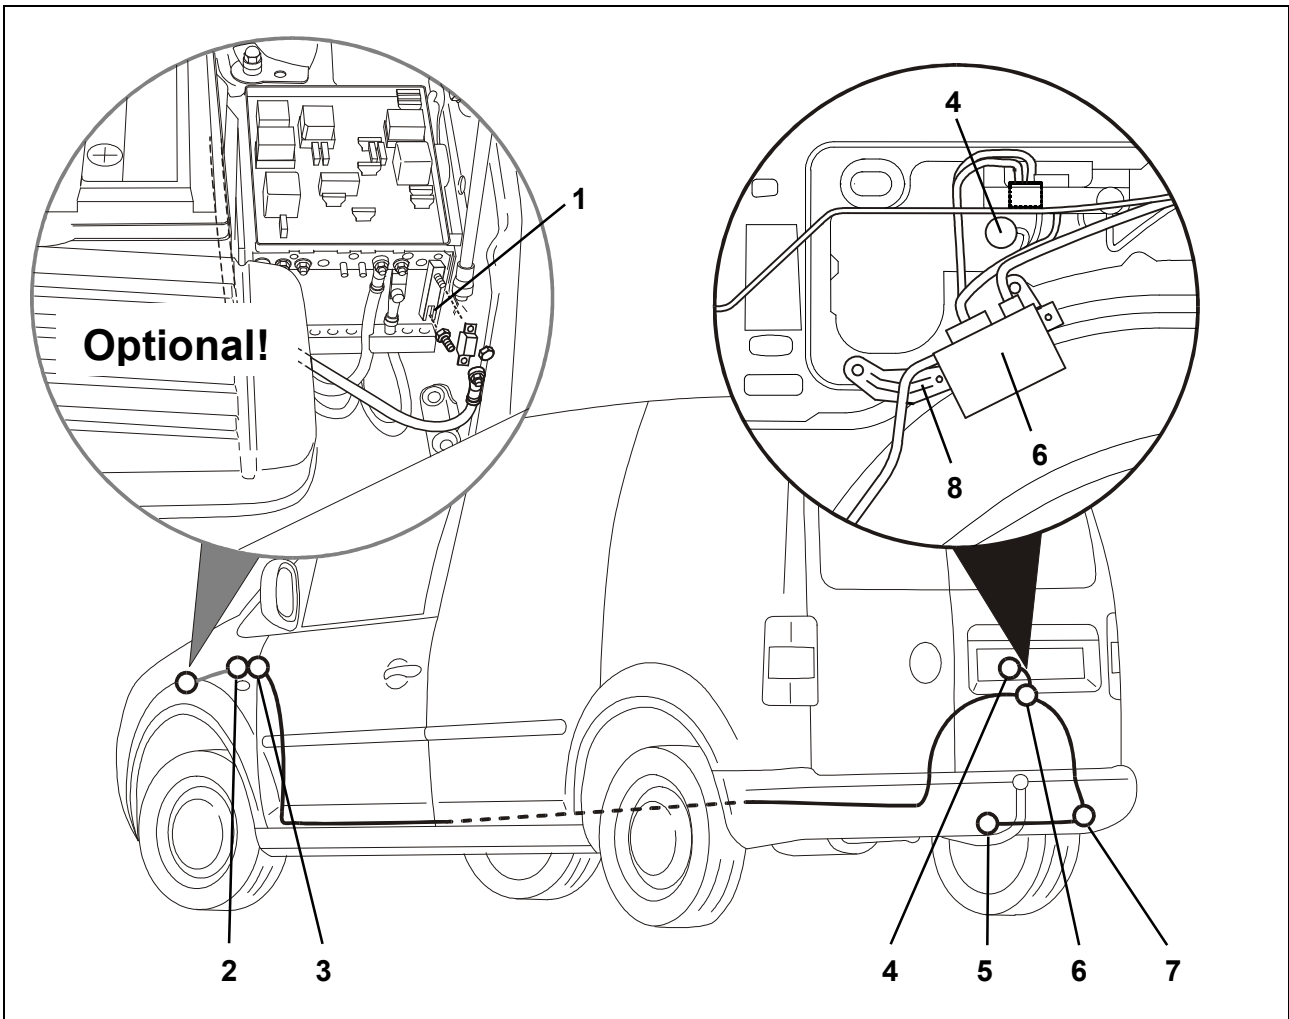

Fig. 1: Installation overview
3. Remove the vehicle's 40 mm hole cover in the side plate on the right-hand side at the rear of the vehicle (Fig. 1/7).
4. Fasten the trailer connection unit (Fig. 1/6) to the supplied holding plate (Fig. 1/8) using the supplied M6 screws.
5. Fasten this unit in its intended place in the rear area of the vehicle on the right side using the supplied snap nuts and fastening screws (Fig. 1/8).
6. Lay the cable end with the 16-pin plug of the socket cable set from the outside through the cable leadthrough to the inside and to the trailer connection unit (Fig. 1/6).
7. Insert the rubber grommet into the cable leadthrough (Fig. 1/7).
10. Screw the socket onto the holding plate (Fig. 1/5) using the supplied screws and fasten the cable set along the towing hitch.
11. Insert the 16-fold connector housing into the intended port of the trailer connection unit (Fig. 1/6) and let it lock into place.
12. Insert the 12-fold connector housing of the 8-core cable set into the intended port of the trailer connection unit (Fig. 1/6) and let it lock into place.
14. Connect the brown wires with the eyelets to the vehicle's ground point (Fig. 1/4).
15. Lay the rest of the cable set along the vehicle's cable harnesses / ducts on the right side up to the heel plate between the B- and C-pillar. Cross sides here and lay it to the left and from there to the area of the network control unit on the left side at the vehicle's front (Fig. 1/2).